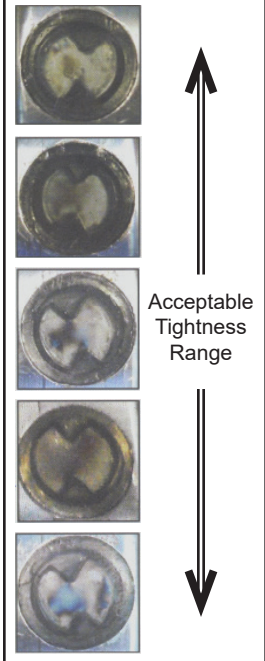

Figure 2
7. If the entire indicator window becomes completely blue with the possibility of yellow and red fringing, the bearing has been over-tightened. See Figure 2. The locknut needs to be completely loosened and start over with step 3.
10. If the entire indicator window becomes completely blue with the possibility of yellow and red fringing, the bearing has been over-tightened. See Figure 2. The locknut needs to be completely loosened and start over with step 6.